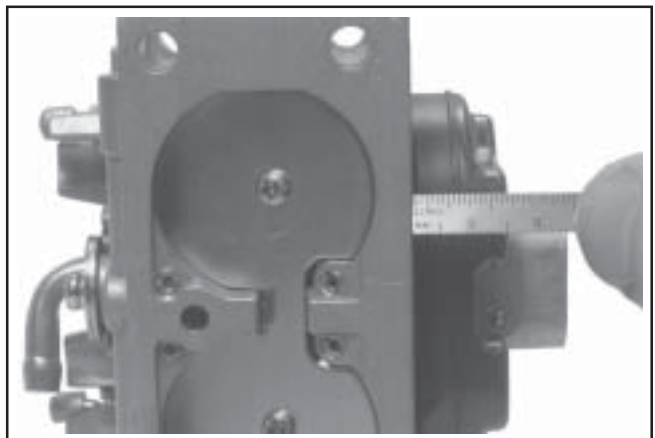

Figure 5-20. Checking Float Height.
8. The correct float height setting is **17 mm (0.669 in.) ± 1.5 mm (0.059 in.)**, measured from the float bottom to the body of the carburetor. See Figure 5-20. Replace the float if the height is different than the specified setting. **DO NOT** attempt to adjust by bending float tab.